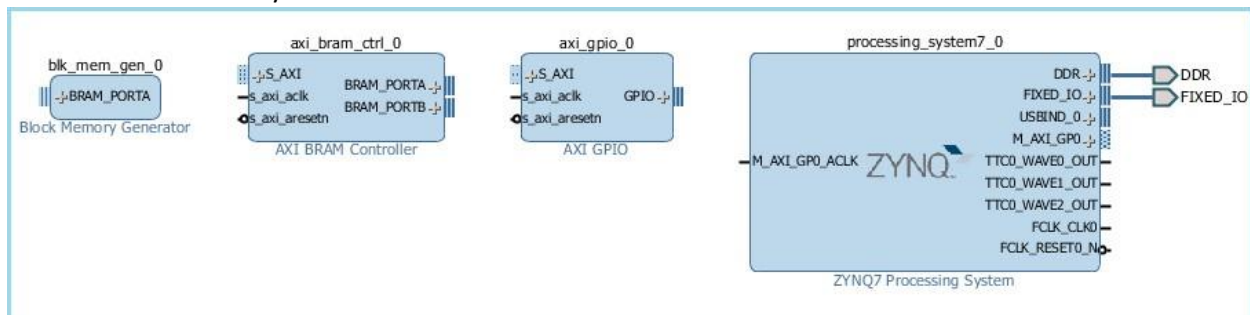

Figure 10: Block Design after instantiating IP.
7. Now you can add peripherals to the processing logic (PL). To do this, right-click the IP Integrator diagram and select **Add IP**.
9. Repeat the action, typing axi bram to find the AXI BRAM Controller, and typing block to find and add the Block Memory Generator. The Block Design window matches Figure 10. The relative positions of the IP will vary.